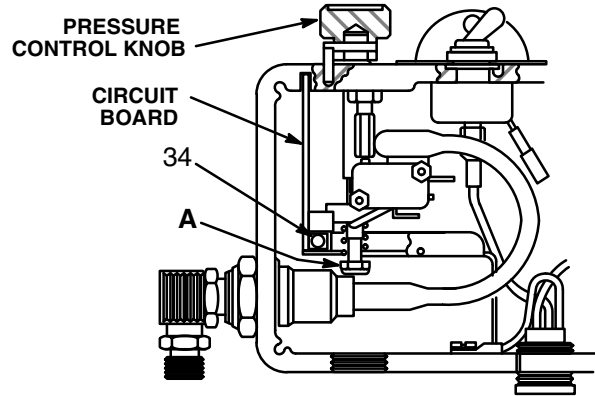

Fig 26–1
4. Pull out the black plastic-tipped pin (34). Push the bottom of the circuit board toward the wall of the control and carefully slide the board out.
6. Reconnect all wires. Refer to the wiring diagram in Fig 26–2. Ease the pin (34) into the retainer.